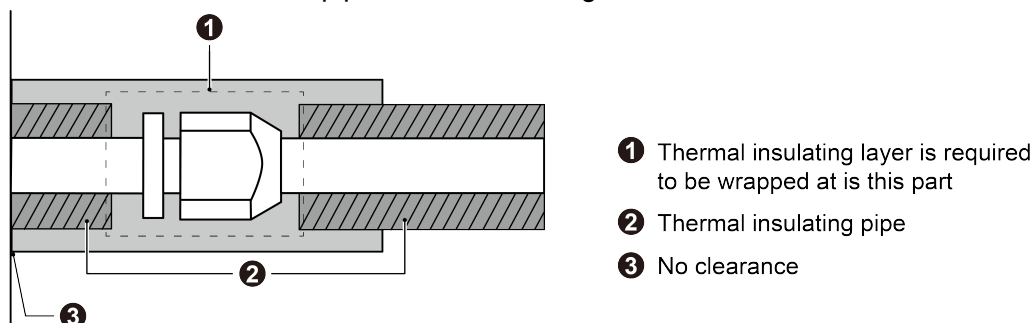

Fig.3.4.10
- 2) Joints at indoor and outdoor units should be wrapped with insulating material and leave no clearance between pipe and wall. See Fig.3.4.10.